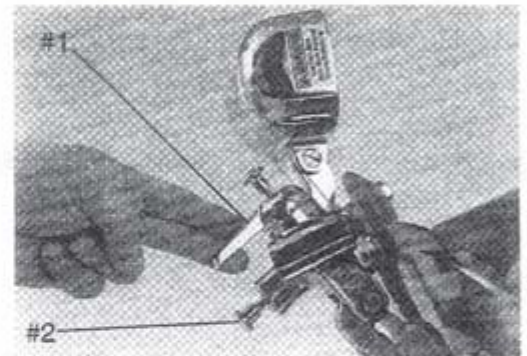

Figure 20-2
3. Turn the handle counterclockwise (Fig. 20-2, #1) to bring stones into contact with the knife. Maintain pressure on the handle for 10 seconds. Be sure both stones are in contact with knife. Repeat operation until knife is sharp.
**NOTE:** If knife becomes very dull, activate only the bottom stone by pushing in Knob #2. (Fig. 20-2)